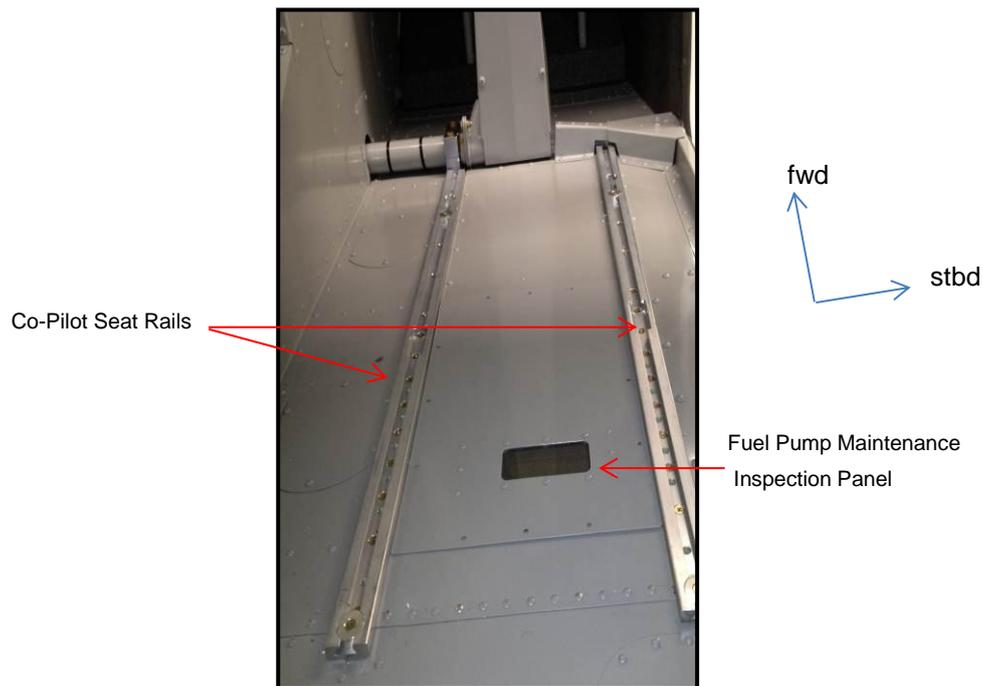

Figure 1
2. Remove fuel pump maintenance inspection panel and stow. See Figure 1.